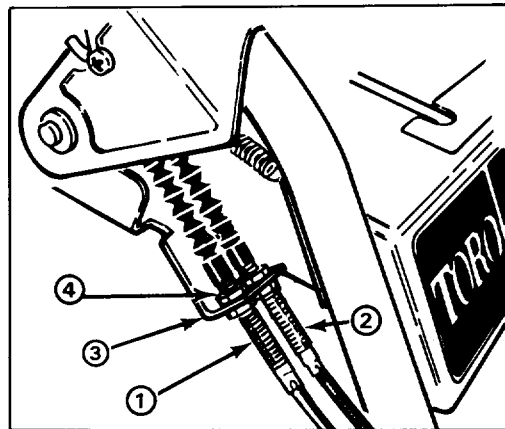

Figure 26
cable to mounting bracket (Fig. 26).
ADJUSTING TRACTION DRIVE BELT (Fig. 26)
8. On control cable which corresponds to belt being replaced, loosen jam nuts securing cable to bracket (Fig. 26). Cable must be free to slide in bracket when changing belt(s).